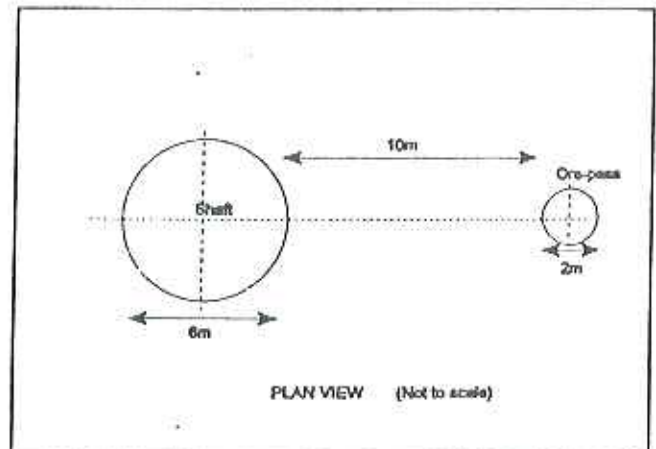

Figure 4.1 Plan view of proposed shaft and ore-pass
- (a) A vertical shaft with a diameter of 6 m has been excavated by a boring machine. It is intended to drill vertical ore passes close to this shaft. You have told the mine design staff that the ore passes should be at least 20 m away from the shaft. However, they are reluctant to abide by your recommendation and want to place the ore passes 10 m away from the shaft (skin to skin) as shown in figure 4.1. Make use of the equations for the stresses around circular excavations to demonstrate that your recommendation is valid.
The proposed layout is as shown in figure 4.1